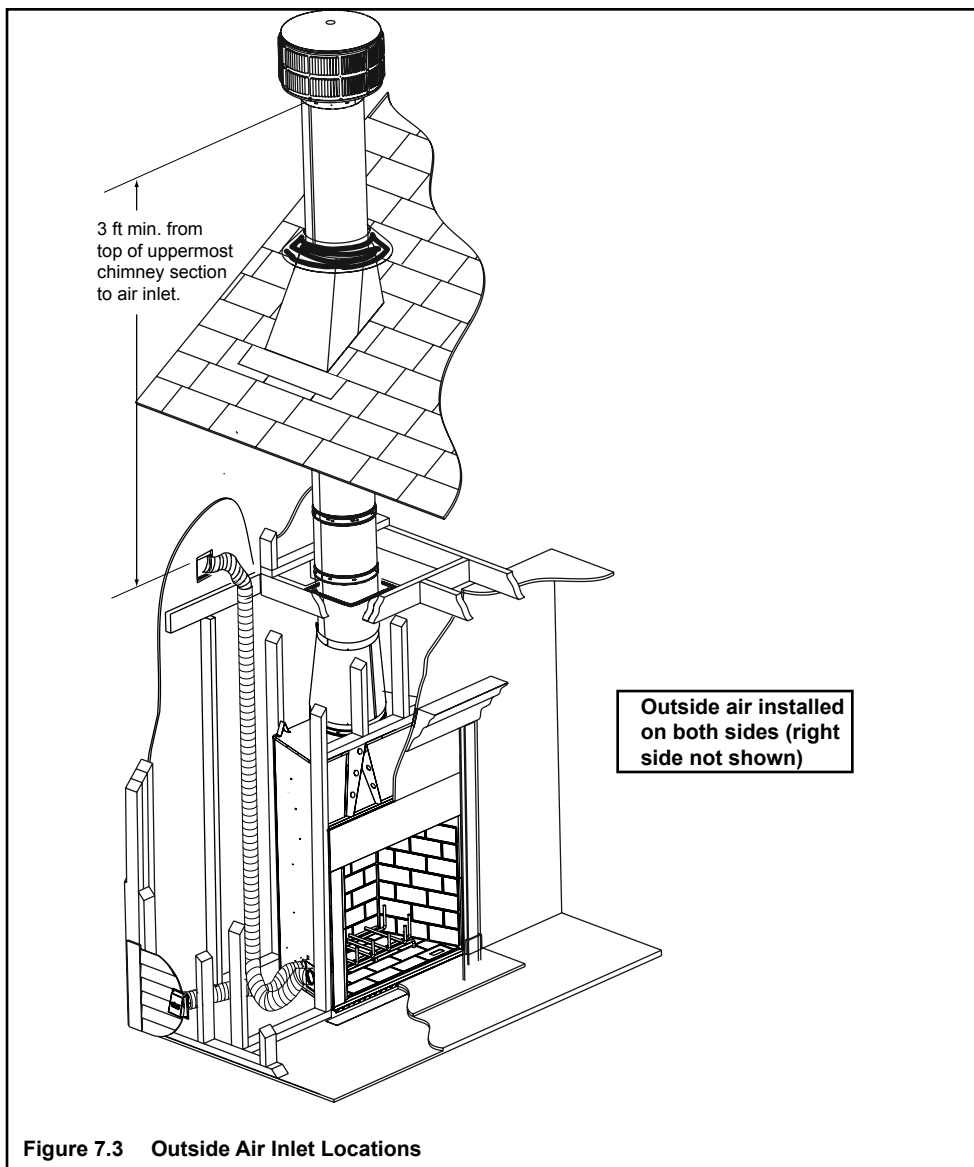

Figure 7.3 Outside Air Inlet Locations
- Install as shown in Figures 7.3, 7.4 and 7.5.